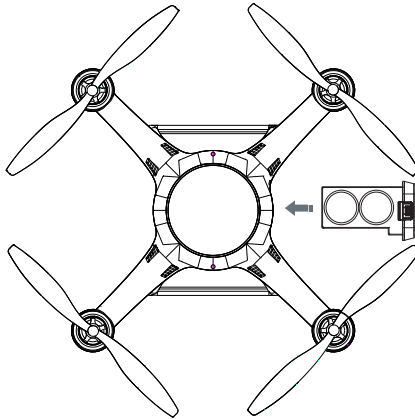

Figure 3-3 Installing the Aircraft Battery
2. Insert the battery into the aircraft battery compartment as shown below (Figure 3-3). A click sound is heard when the battery has been properly installed.